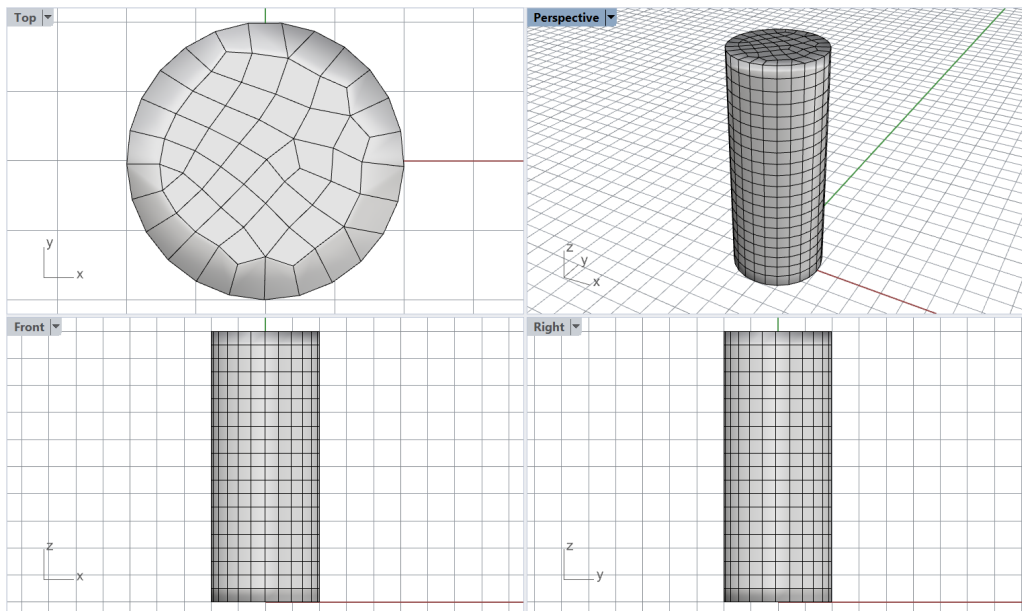
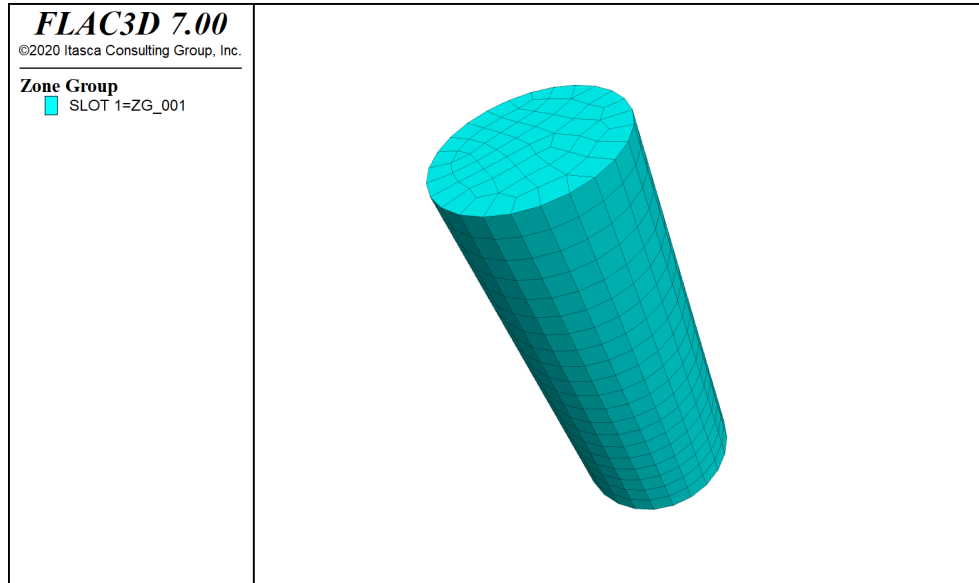

Figure 3: Quad-dominant surface mesh generated by **_GSurf**.
Figure 4: Volume mesh of cylinder imported into **FLAC3D**.
7. Select the surface mesh and type **_GSurf** or click on the  icon in the *Griddle* toolbar to remesh the initial triangular mesh. Select **Mode = QuadDom**, **MinEdgeLength = 0.5**, **MaxEdgeLength = 0.5** and keep all other parameters at the default values. The resulting mesh is shown in Figure 3.
default settings and press **Enter** twice. After the **Save As** dialog appears, type a desired name for the output file. **GVol** will generate a conformal hex-dominant volume mesh and output it using the **FLAC3D** binary format (the default format) to the selected file. This file can be imported into **FLAC3D** using **FLAC3D's** **File** → **Grid** → **Import from FLAC3D ...** option (Figure 4).
Although the mesh in Figure 3 and Figure 4 may resemble a structured mesh or a pure hexahedral mesh, the **GVol** output log file reports that the output mesh contains: